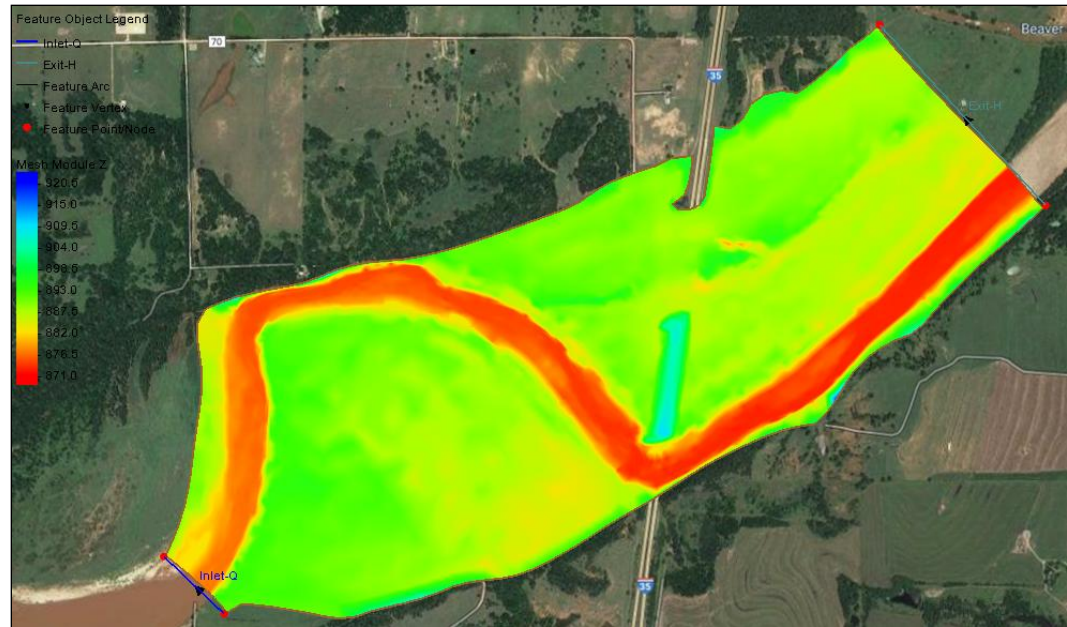

Figure 1 Initial project
The project should appear similar to Figure 1. The project has multiple simulations with different boundary condition coverages assigned to each simulation. The tutorial will go through the different simulations to show how changing the boundary condition properties affect the model.
1. **Zoom**  in near the downstream boundary on the right side of the model (labeled “Exit-H” in Figure 1).